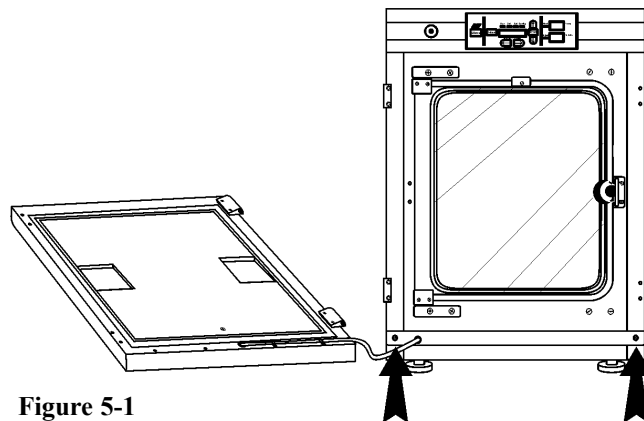

Figure 5-1
2. Open the outer door and remove it by lifting it off its hinge pins. Place the door on a padded surface to prevent scratches. (Figure 5-1)